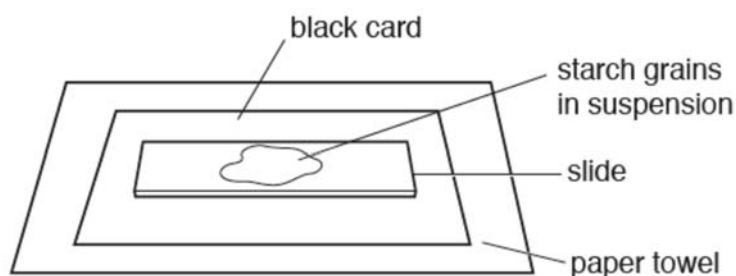

Fig. 2.1
1. Put one **clean and dry** microscope slide on a piece of black card with a paper towel underneath as shown in Fig. 2.1.